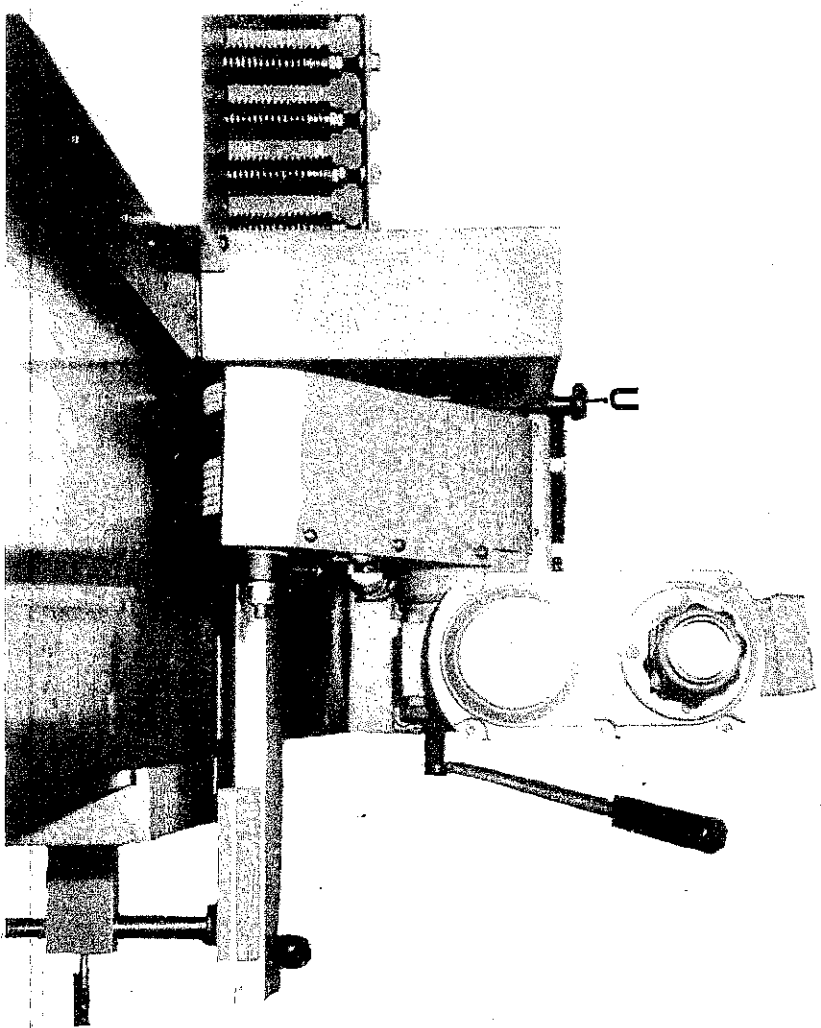
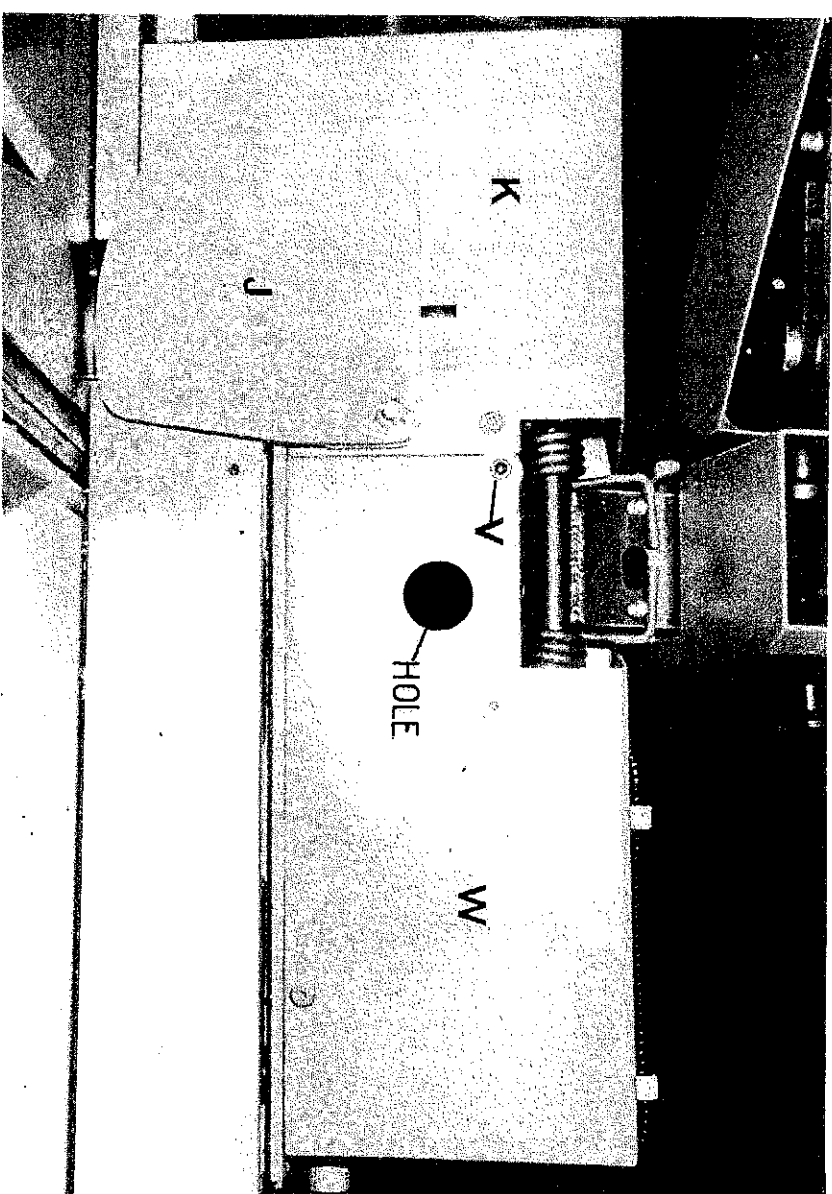

FIG. 29
FIG. 30
Tension of belt can be checked through hole under planer feed unit FIG.30. To gain access to hole and covers, loosen locking handwheel "U" FIG.29 and lift planer feed unit clear. If tensioning is required, proceed as follows:-
- b) Remove stop "V" from rear cover "W" FIG.30.
- d) Remove 2 - M8 button head screws and 1 - M8 countersunk screw from rear cover "W" FIG.30 (Countersunk screw situated at thickneser side).
- f) Remove planer feed unit stop "V" FIG.30.
- g) Remove side head pivot guard "J" FIG.30 and stop behind guard.
- h) Remove 4 - M8 button head screws and 2 - M8 countersunk screws from covers "K" and "W" FIG.30 (2 - M8 countersunk screws are situated at thickneser side) and remove both covers.